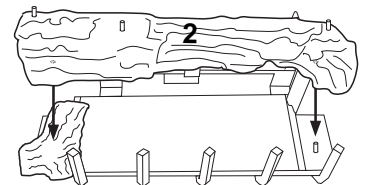

Figure 45 - Installing Log No. 2
2. Place left side of log #2 (front log) onto top of log #1. Place right side of long onto second pin located on right side of grate (see Figure 45).